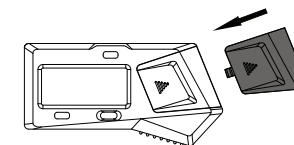

fig.3
4. Please clean the measuring faces with soft cloth (fig.3), then close the external jaws and press 'ZERO' button to set zero. Caliper should be checked regularly to make sure that it is properly zero set.